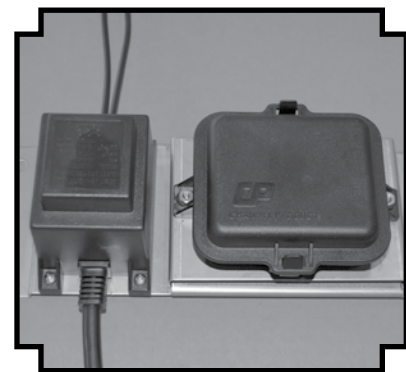

Figure 7-2 - Locating battery compartment.
1) Locate the battery compartment. On free standing models this is located inside the grill cart on back left. (For 42" free standing models you will need to remove both storage drawers). For built-in models it is located under the unit where the installer has mounted the battery and transformer bracket. (See figure 7-2)